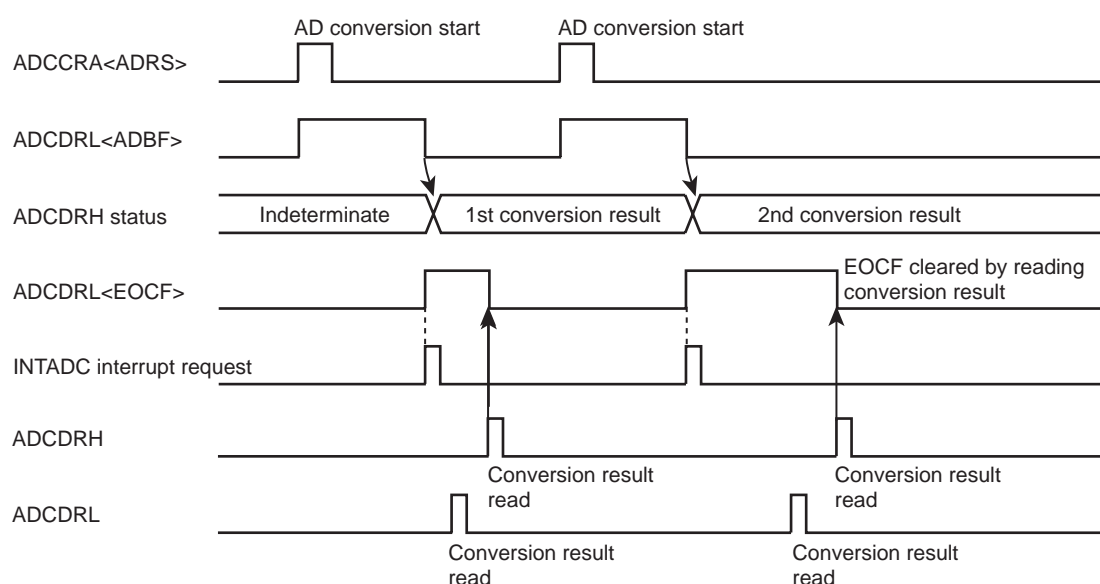

Figure 15-2 Software Start Mode
- Set the AD conversion time using AD conversion time (ACK). For details on how to set the conversion time, refer to Figure 15-1, Figure 15-2 and AD converter control register 2.
- After setting up (1) and (2) above, set AD conversion start (ADRS) of AD converter control register 1 (ADCCRA) to "1". If software start mode has been selected, AD conversion starts immediately.